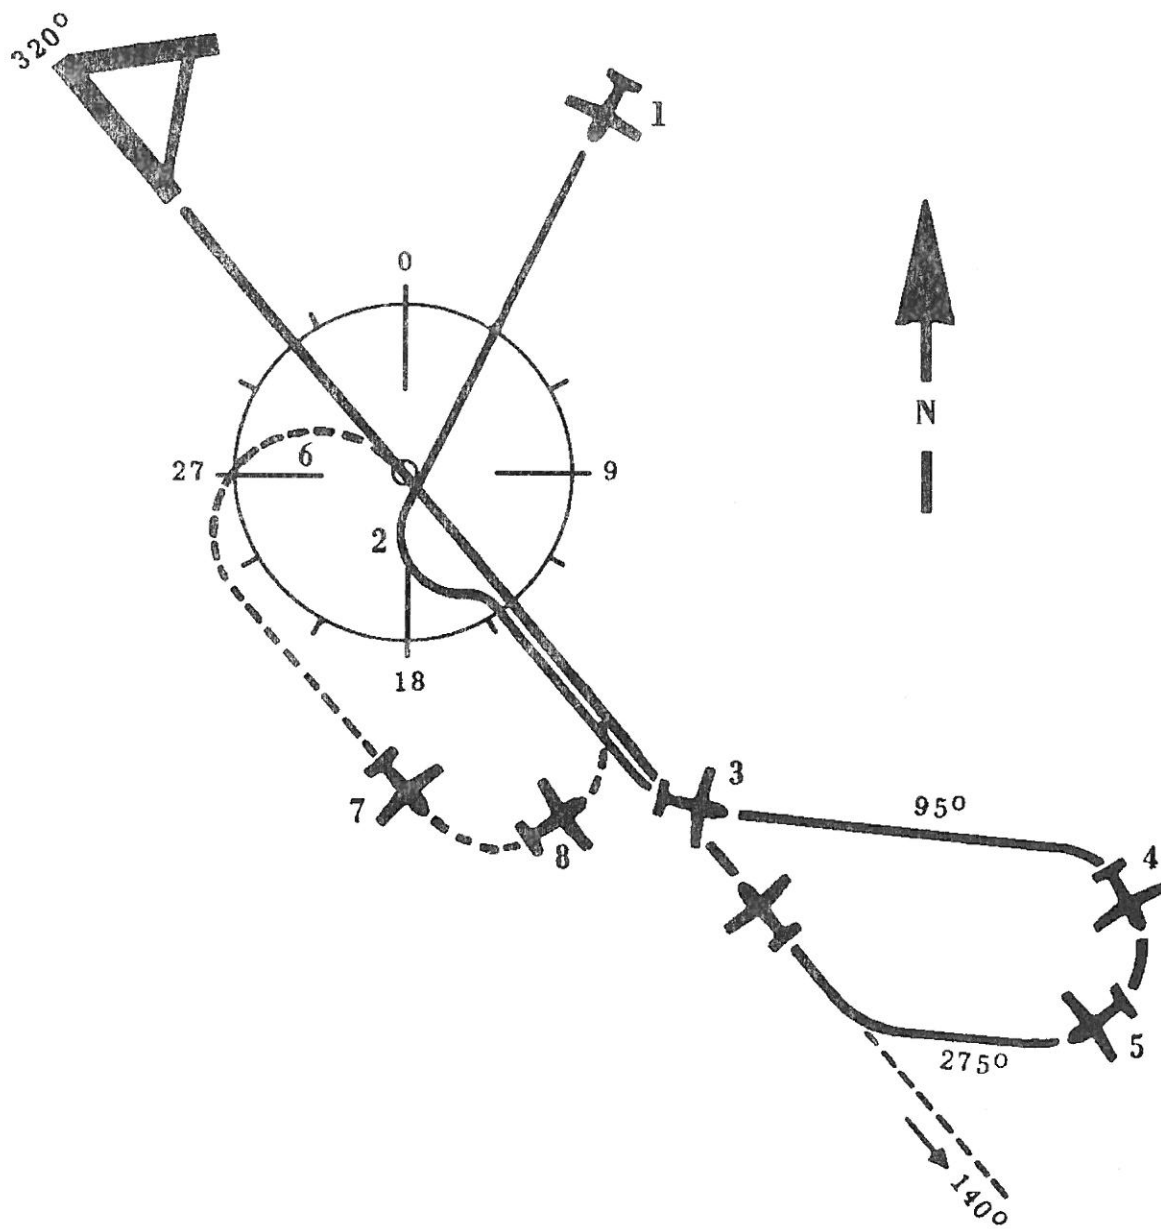

FIG. 13
**VOR APPROACH (See Fig. 13)**